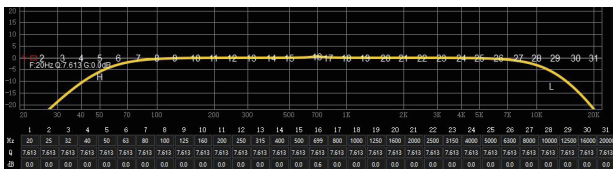

Figure 3.3.9
1. the output channel EQ editing method, all 31 equalizer will work for the next parametric equalizer. When the parametric equalizer curve, if available in the box below the corresponding input parameter values can be (frequency, Q value, and gain) adjusted in real time will also be revealed at the top (as shown in Figure 3.3.9 parametric equalizer case).